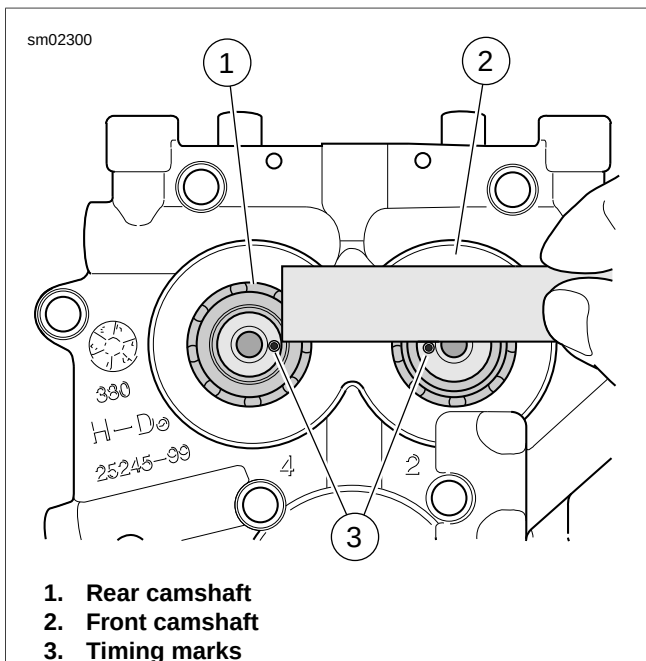

Figure 3-60. Verify Alignment of Timing Marks
- 3. See Figure 3-60. Using a straightedge, verify that the timing marks on the ends of the front and rear camshafts are in alignment. If necessary, rotate camshafts in order to make this observation.